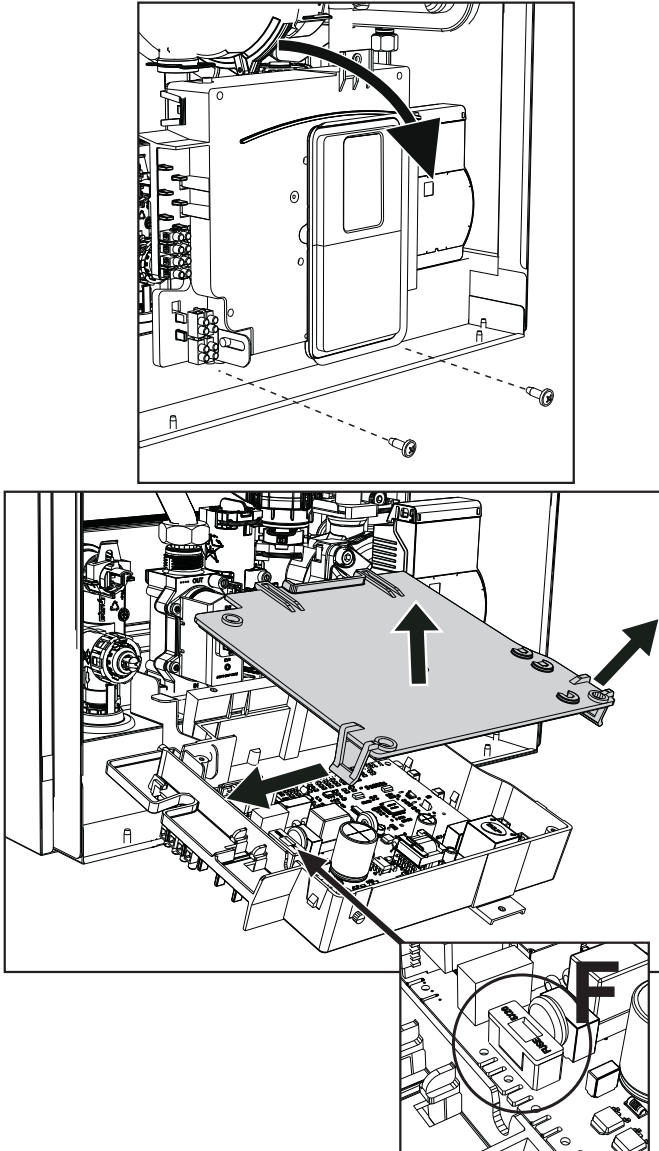

fig. 30
By following the instructions in fig. 30, it is possible to access the fuse (F).